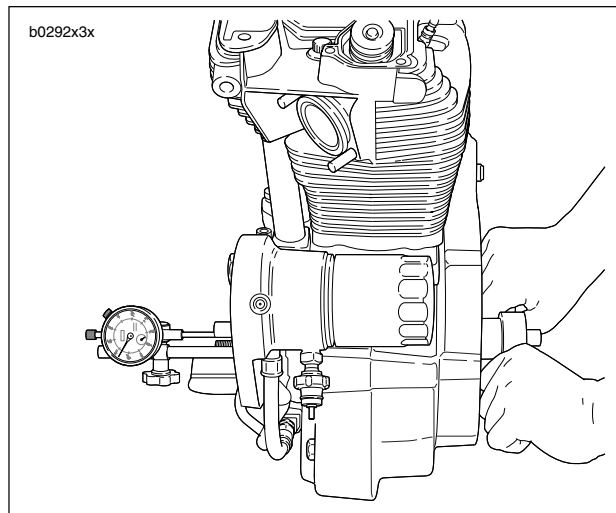

Figure 3-75. Checking Flywheel End Play
3. See Figure 3-75. Attach a dial indicator to gear side crankcase with indicator stem on end of gearshaft.